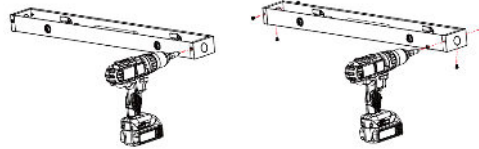

Fig. 32
2. Remove the screws of end caps, and take off the end caps from the strip light (Fig. 32).